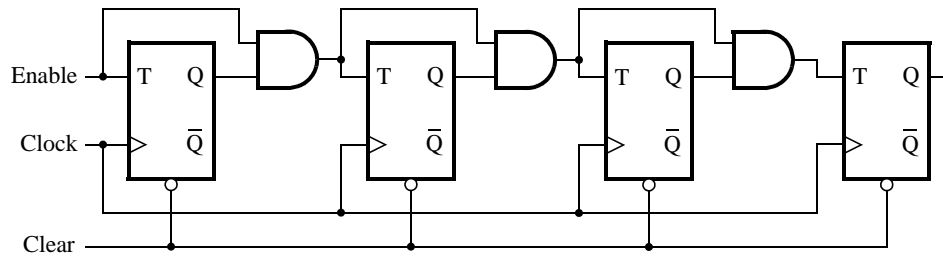

Figure 2: A 4-bit counter.
Consider the circuit in Figure 2. It is a 4-bit synchronous counter which uses four T-type flip-flops. The counter increments its value on each positive edge of the clock if the *Enable* signal is asserted. The counter is reset to 0 by setting the *Clear* signal low. You are to implement a 8-bit counter of this type.
1. Write a Verilog file that defines an 8-bit counter by using the structure depicted in Figure 2. Your code should include a T flip-flop module that is instantiated eight times to create the counter. Compile the circuit. Use the Technology Map and/or RTL netlist viewers in Quartus II to examine the structure of the synthesized circuit.